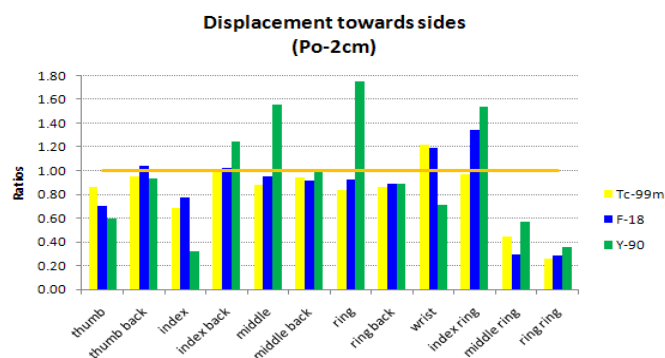

Figure 12: Example of histogram by position. Ratios between the position (Po-2cm) and initial position (Po). Scenario I2N
- Calculate the ratios between different positions and initial position and do one histogram for radionuclide, and one histogram for position, similar than previous test. See example in Figure 12.